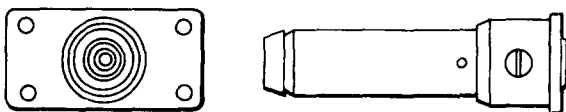

Fig. 12—512A Plug
2.11 512A: The 512A (Fig. 12) is a coaxial type plug. On the mounting end, the center conductor is arranged for soldered wire connections. The other end is arranged for use with 477A- or similar-type jacks. The 512A plug is not arranged for connection to a coaxial cable and is used with the KS-20796 earth-ground filter. This plug replaces the 472A plug.